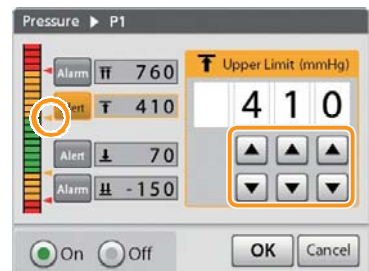

Figure 3-15
9. Tap ▲ or ▼ to input the upper limit value you want to set. (Figure 3-15)